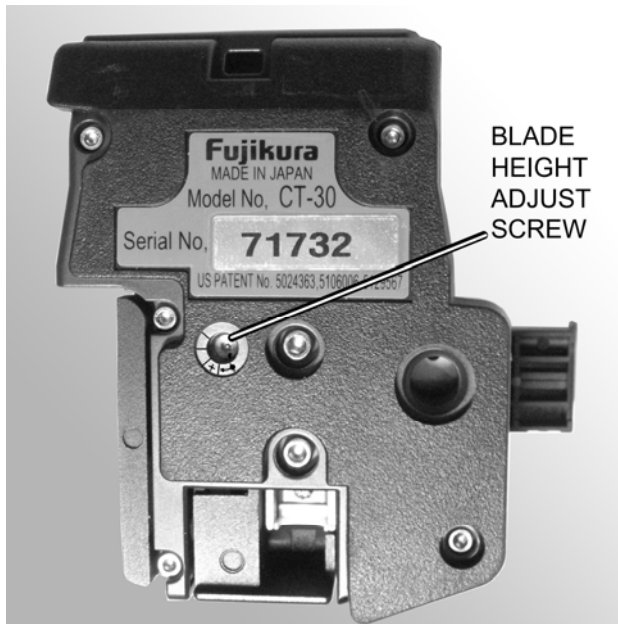

Fig. 7: (Bottom view) Blade height adjuster and indicator.
3. Note the small dot marking on the adjustment screw and the position markings on the case. Carefully rotate the blade height adjustment screw (Fig. 7) clockwise one mark. This can only be done 2 times before blade must be replaced.